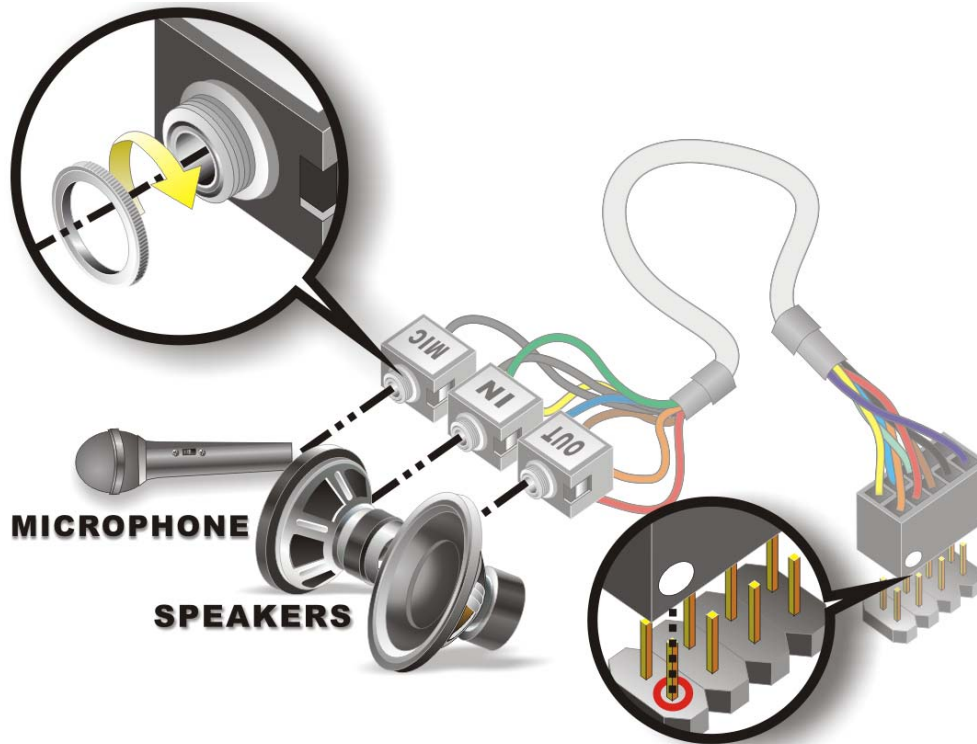

Figure 5-11: IDE Cable Connection
Step 2: **Align pin 1.** Align pin 1 on the onboard connector with pin 1 on the audio kit connector. Pin 1 on the audio kit connector is indicated with a white dot. See **Figure 5-11.**